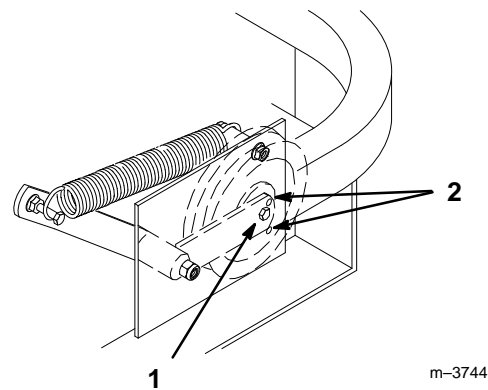

Figure 17
5. Check belt tension. The center bolt of spring loaded idler must be between the two alignment holes in left support plate (Fig 17).
7. Check belt tension again. The center bolt of spring loaded idler must be between the two alignment holes in left support plate (Fig 17). Adjust, if necessary, and tighten all hardware securely.